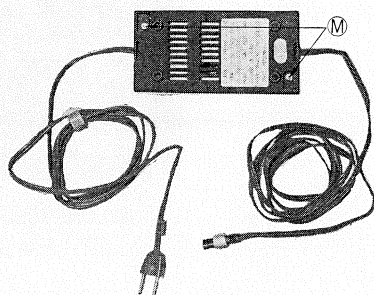

Fig. 3-9
- 2) Remove two lower screws ⑭ shown in Fig. 3-9. The case can now be removed to take out the inside.